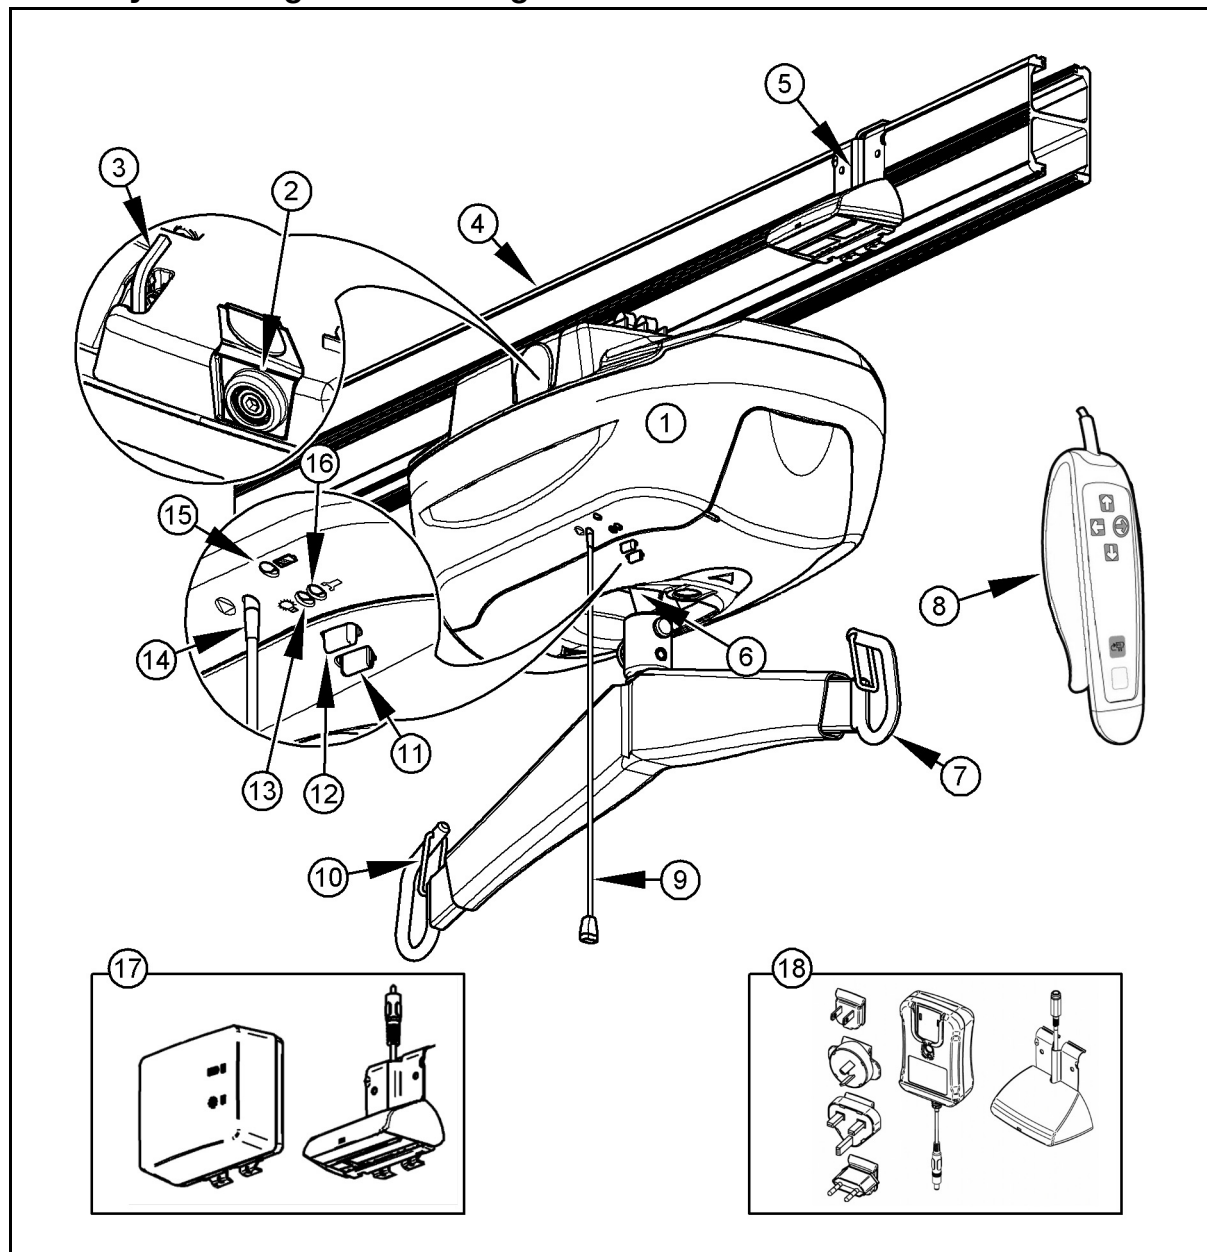

Fig. 4
The following refers to Fig. 4 on previous page:
The *Maxi Sky⁶⁰⁰* units are equipped with either a cord-connected universal charging system (#700.15500) or a wall-adapted charger (#700.15501) that can both be customized to fit the AC voltage outlets where they are sold (see Fig. 4).
- 1) To stop the ceiling lift in any emergency, gently pull the red emergency cord once, until you hear a “click” (see Fig. 4 in the “Part Designation” section of this manual). You will notice that the reset switch’s plastic insert, at the very top of the red cord, has descended. The green power light has also turned off. You may also notice that the patient begins to descend slowly when the emergency stop is activated. This is normal.